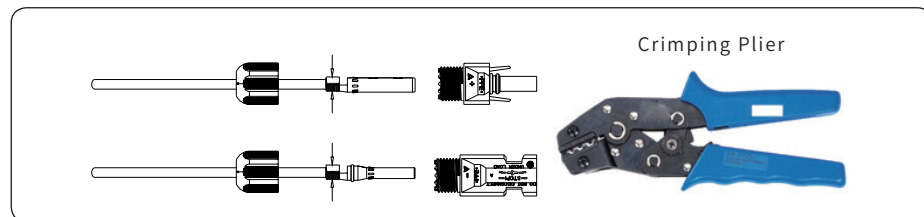

Figure 4-14
4) Insert the DC cable through the DC connector nut into the metal terminal and press the terminal with a professional crimping plier (pull back the cable with some power to check if it's tight enough), as shown in Figure 4-14: